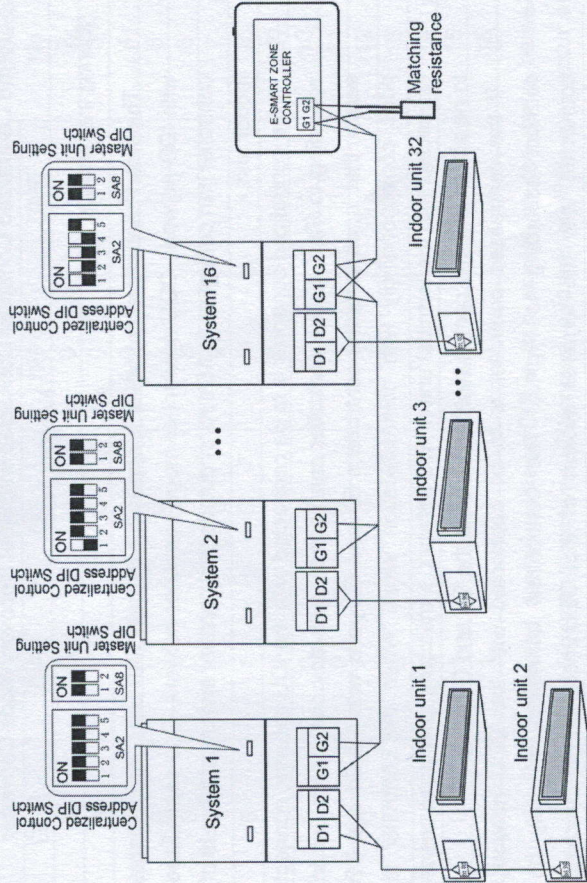

Fig. 1.5 Centralized Controller Connected with ODU Network
- (3) If the centralized controller is to be connected with the ODU network, connect according to Fig.1.5. The centralized controller can only be connected with the terminal system of the ODU network. A matching resistance needs to be added with the communication cords at the G1 and G2